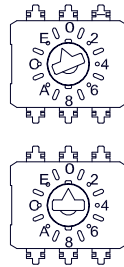

Figure 25 Model 100 Terminal Board Rotary Switches
- Ensure that the two rotary switches on the Model 100 Terminal Board are set to the Modbus™ address (F0h) for the wireless radio module of the X40 controller. The Model 100 Terminal Board should come set from the Detcon factory and should be set to the address to F0h. Access the terminal board and locate the switches shown in Figure 25. The MSD (most significant digit) "F" is represented by the top rotary switch (closest to the J1 connector) and the LSD (least significant digit) "0" is represented by the bottom rotary switch (closest to the J2 connector).